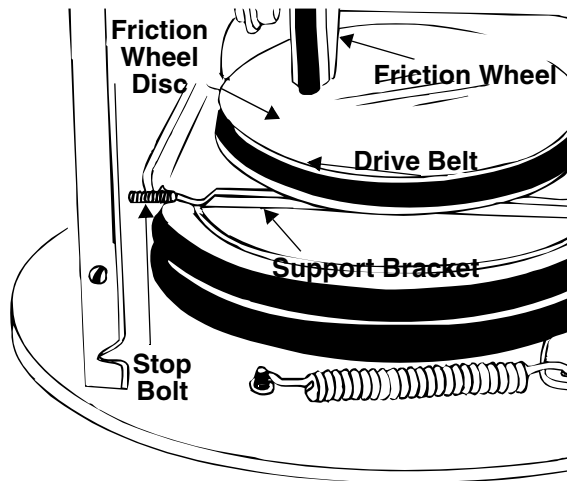

Figure 25
7. Back out the stop bolt to allow the belts to slip between the bolt and auger pulley. See Figure 25.
NOTE: The support bracket must rest on the stop bolt after the new belt has been assembled. See Figure 25.